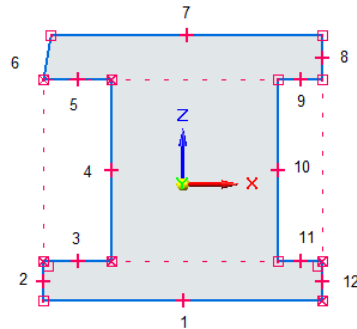

Figure 3-35 Outer loop of the profile
- Draw the outer loop of the profile by using the **Line** tool, refer to Figure 3-35.
- Draw the sketch of the outer loop, as shown in Figure 3-35. It is evident from this figure that the sketch is drawn around the origin and It is not symmetric at this stage. It will become symmetric after adding all relationships and dimensions to it. You can use the alignment indicators to draw the sketch. For your reference, the lines in the sketch are indicated by numbers.